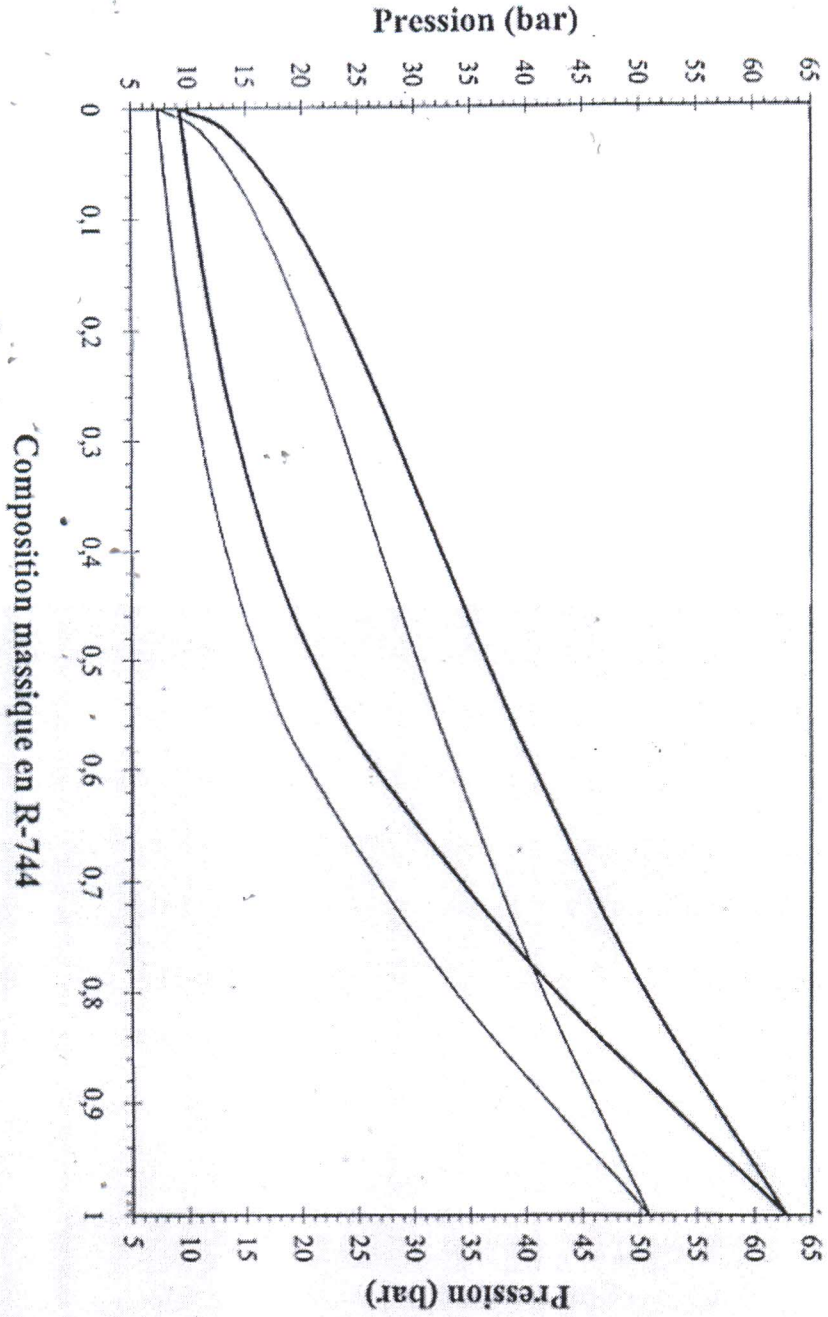

Figure 3 : Diagramme d'équilibre des phases du couple CO₂/Propane (R-744/R-290)
- (a) To locate on Figure 3 (to return the figure with the answer sheet) zones of pure liquid and pure vapour as well as the curves of dew and bubble of each spindle. (1 mark)